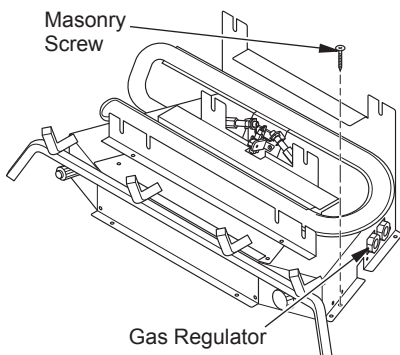

Figure 14 - Attaching Heater Base to Fireplace Floor
2. Mark screw locations through holes in mounting brackets (see Figure 14). If installing in a brick-bottom fireplace, mark screw locations in mortar joint of bricks.
5. Apply pipe joint sealant lightly to fitting threads. Connect approved flexible gas hose to gas regulator of heater (see Figure 14). *Note: Never apply pipe sealant to flare fitting threads. Hold gas regulator with a wrench when connecting flexible gas hose.*
6. Attach base assembly to fireplace floor using two masonry screws provided in hardware package (see Figure 14).